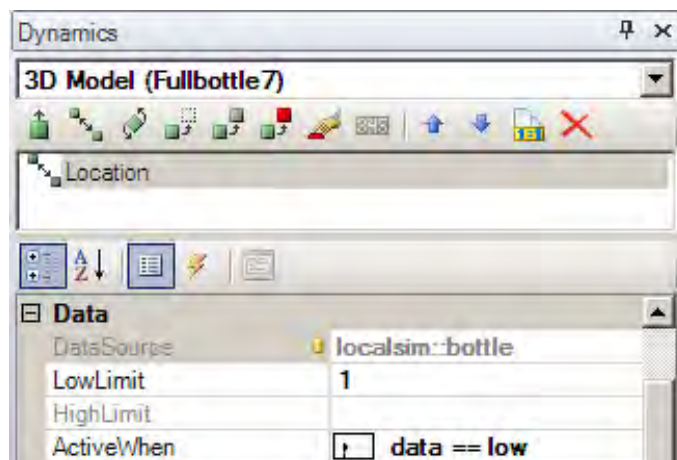

Figure 2.3 - Configuration of a Location Dynamic on a Bottle
17. First, for each location dynamics on a bottle change it so that the data source is bind to the smart property. Then change the ActiveWhen state to data== low and set the low limit to 1. The Data section of the one of the dynamic should look like Figure 2.3.